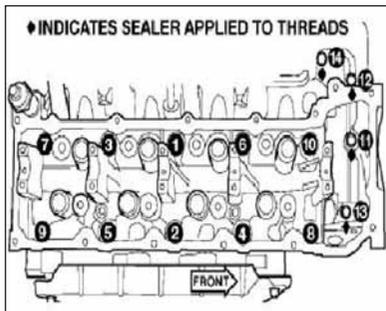

Figure 4 Torque sequence for 4.7L Chrysler/Jeep engines.
6) Tighten the bolts in sequence shown above in **Figure 4**, using the following steps and torque values: